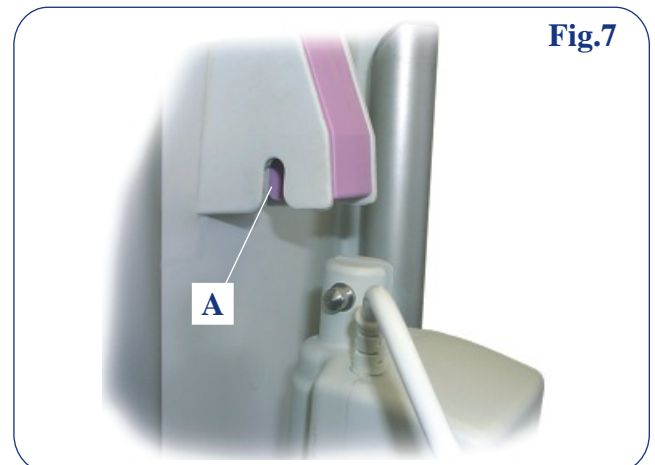

Fig.7
- Fold the transfer flaps onto the seat and slide the seat section onto the base section. Position the top end of the actuator into the slot in the latch at the back of the seat section (A fig. 7) and make sure that it 'clicks' into place.